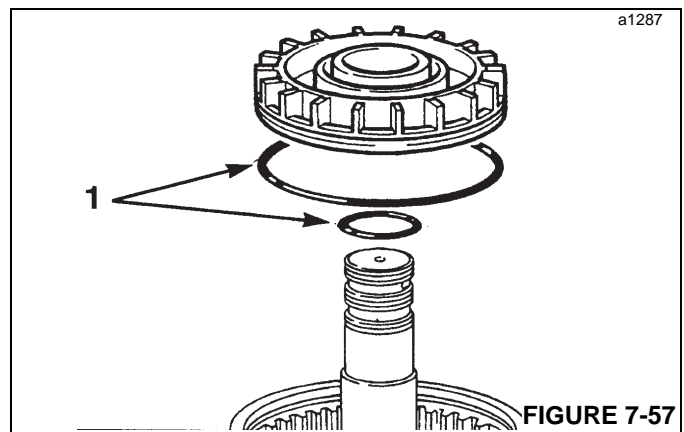

FIGURE 7-57
1. Install new O-rings (1, Figure 7-57) onto piston and shaft. Lubricate with oil and then press piston fully into bore of clutch housing.